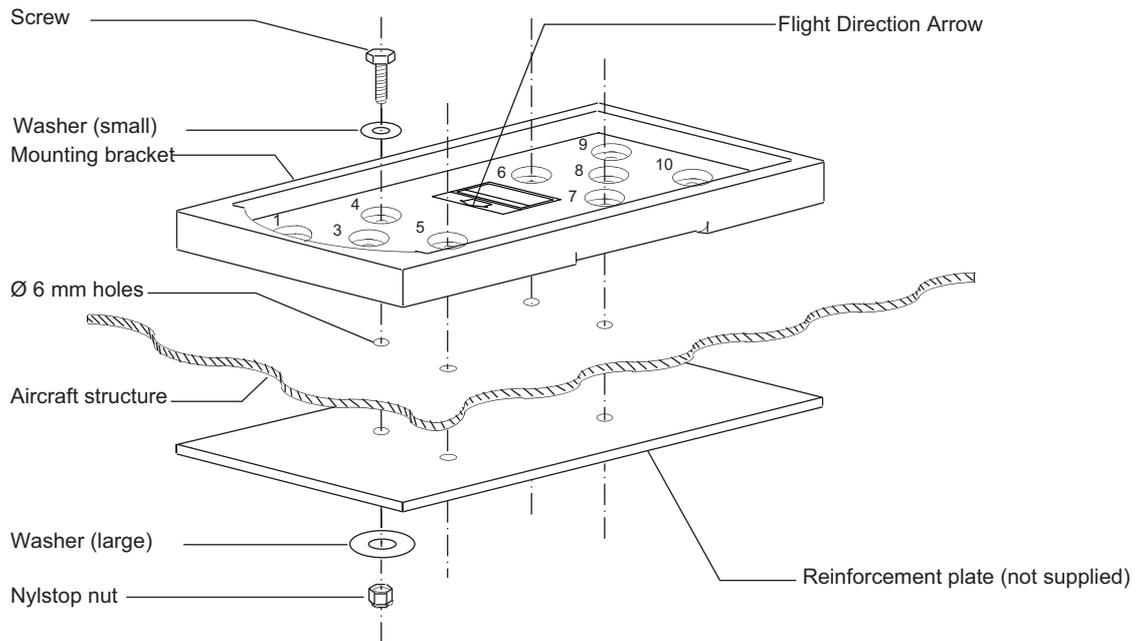

Figure 202: Bracket installation
- If the aircraft structure is not solid enough to withstand a 500 kg traction on the bracket, a reinforcement plate (not supplied) should be installed as shown Figure 202: Bracket installation.